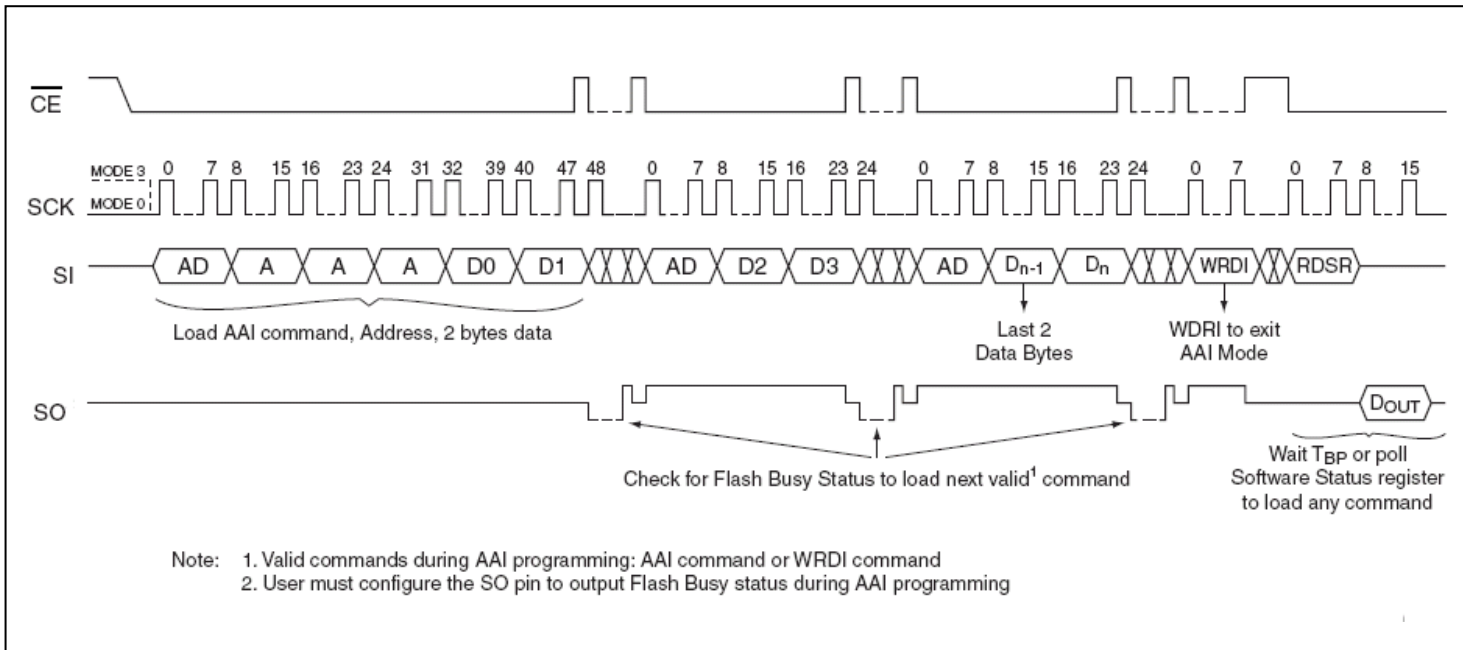
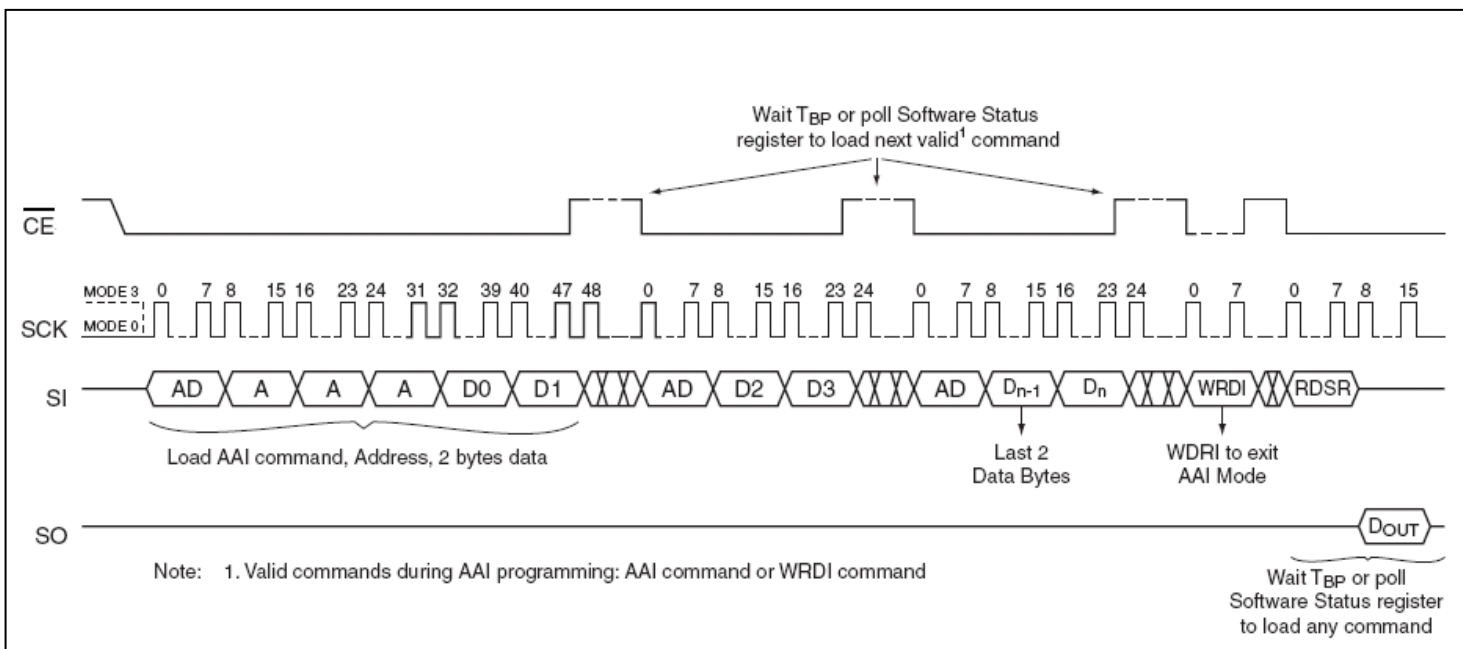

Figure 14: AAI Word Program Sequence with Hardware End of Write Detection
Figure 15: AAI Word Program Sequence with Software End of Write Detection
7) to LSB (bit 0). The first byte of data (D0) will be programmed into the initial address [A₂₃-A₁] with A₀=0; the second byte of data (D1) will be programmed into the initial address [A₂₃-A₁] with A₀=1. \overline{CE} must be driven high before the AAI WORD program instruction is executed. The user must check the busy status before entering the next valid command. Once the device indicates it is no longer busy, data for next two sequential addresses may be programmed and so on. When the last desired byte had been entered, check the busy status using the hardware method or the RDSR instruction and execute the WRDI instruction, to terminate AAI. User must check busy status after WRDI to determine if the device is ready for any command. Please refer to Figure 14 and Figure 15.